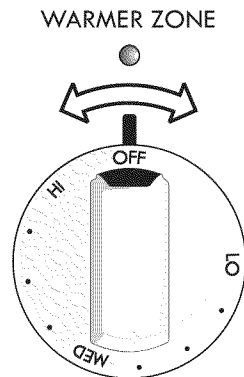

Fig. 2
1. Push in either direction and turn the warmer zone control knob to the desired temperature level (See Fig 2). The temperatures are approximate, and are designated by HI (high), MED (medium) and LO (low). However, the control can be set at any position between HI and LO for different levels of warming.